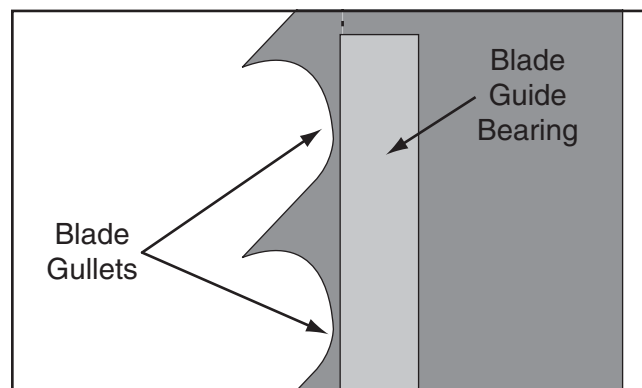

Figure 34. Blade guide bearing positioned just behind the blade gullets.
3. Loosen the cap screw shown in the figure above, then use the knurled knob to adjust the guide bearings laterally so the bearing faces are just behind the blade gullet, as illustrated in **Figure 34**, and re-tighten the thumbscrew to secure the setting.